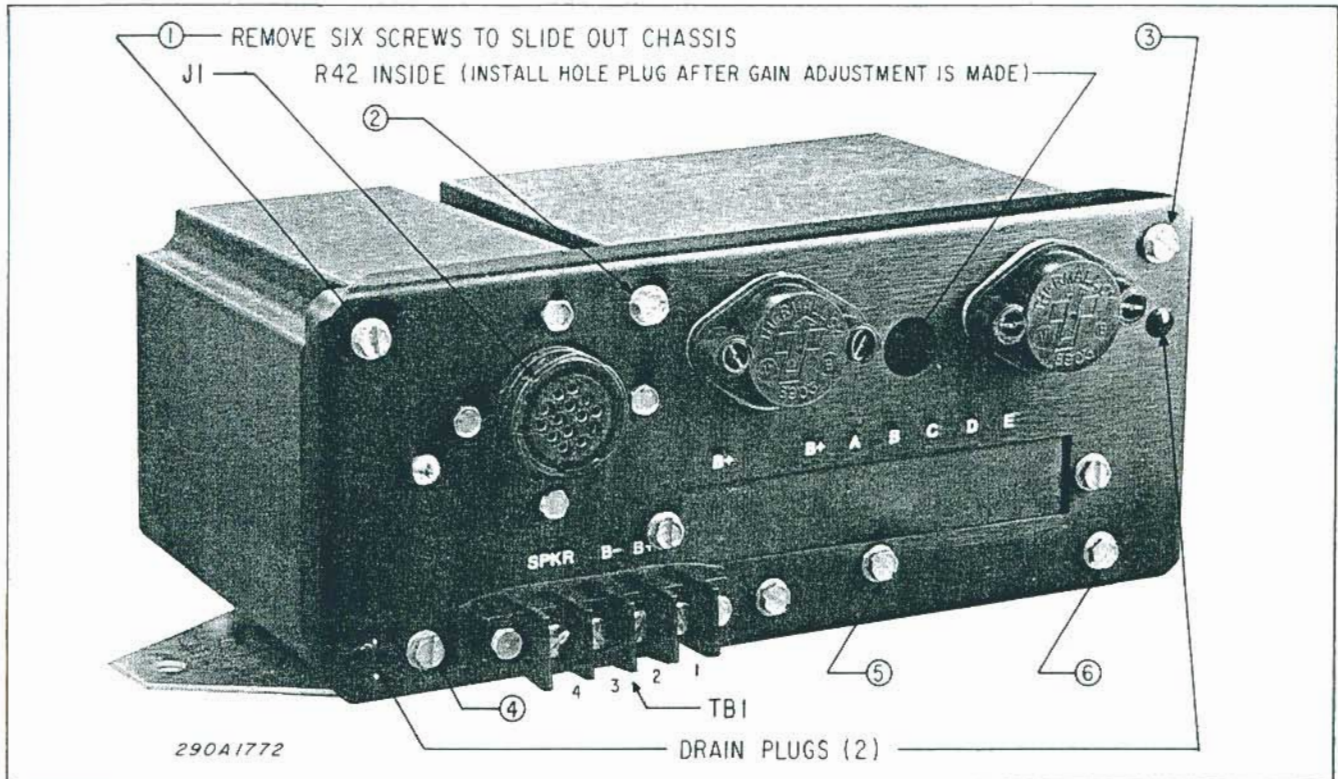

Figure 3-1. Siren Front Panel.
C. Secure the mounting bracket to the dash with (2 each) 1/4-20 x 3/4 hex head screws, 1/4 split lock washers and 1/4-20 hex nuts as shown in figure 3-1.
The siren housing is splashproof, however, it is NOT waterproof. If the siren is installed in the engine compartment, moisture can enter and accumulate, possibly causing damage to electronic circuitry. To forestall this condition, the housing has been equipped with several plugged drain holes. As indicated in figure 3-1, two of these holes are located in corners of the front panel, diagonally opposite each other. There are two similar plugged drain holes on the rear of the housing in the corners closest to the mounting flanges. Remove the plug(s) at the lowest point of the installation.
After the siren is completely installed, depress the microphone push-to-talk switch and speak into the microphone in a normal speaking voice. Using a small screwdriver, adjust R42 for the desired PA loudness level. See figure 3-1 for the location of R42. It may be desirable to station another person outside of the vehicle, approximately 10 feet from the front of the speaker, to assist the operator while making the adjustment.